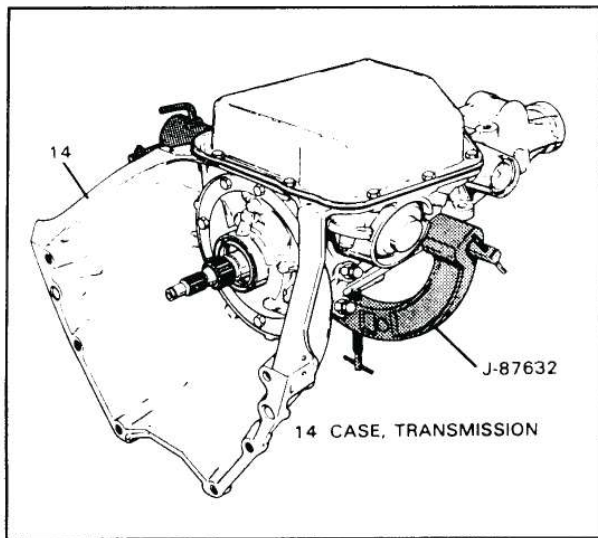

Figure 33
3. Install J-8763-02 holding fixture on transmission case, as shown in Figure 33.
4. Mount holding fixture and transmission into the base on work bench, as shown in Figure 33.
6. Rotate the transmission with the bottom pan facing up, as shown in Figure 33.